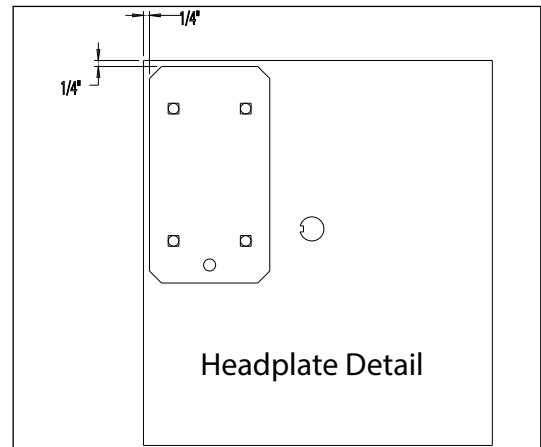

Fig. 1
1. Weld the door plate assembly (provided) to the door headplate, A minimum of two 1" weld beads are required on each side of the weld plate for proper attachment. See Fig 1 for proper placement.